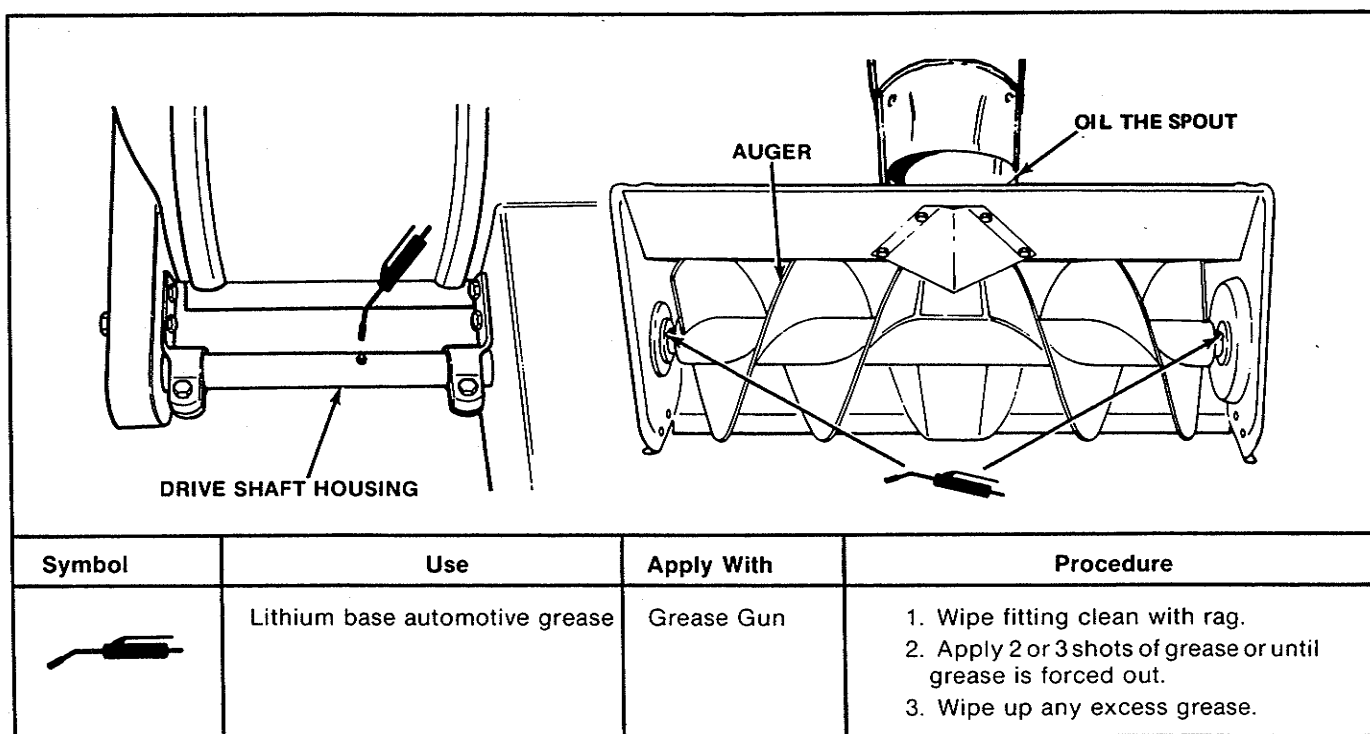

Figure 10. Lubricate Drive Shaft & Auger Shaft
- c. Spout Rotating Surface (shown in figure 10; and
2. Lubricate drive shaft and auger shaft as shown in figure 10.